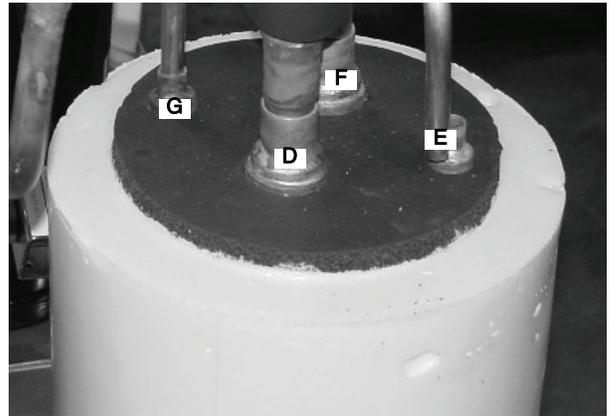

Figure 26.
29. Place the foamed accumulator assembly orienting the suction line outlet (D) to the right end of the unit (FIGURE 26).